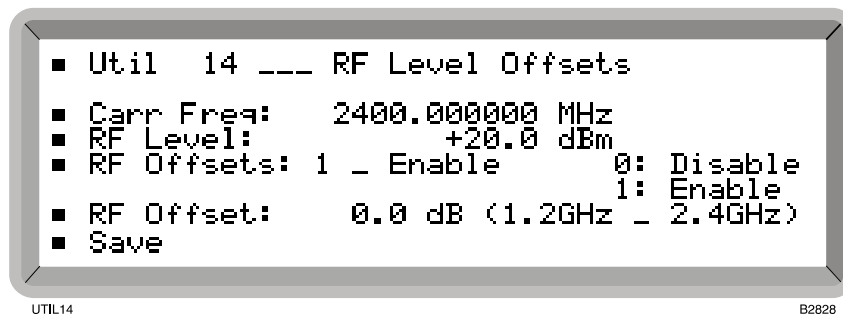

Fig. 4-33 RF level offsets menu
- (1) Select the *Util 14: RF Level Offsets* menu. This shows the selected RF level offset for the currently selected carrier frequency (see Fig. 4-33).